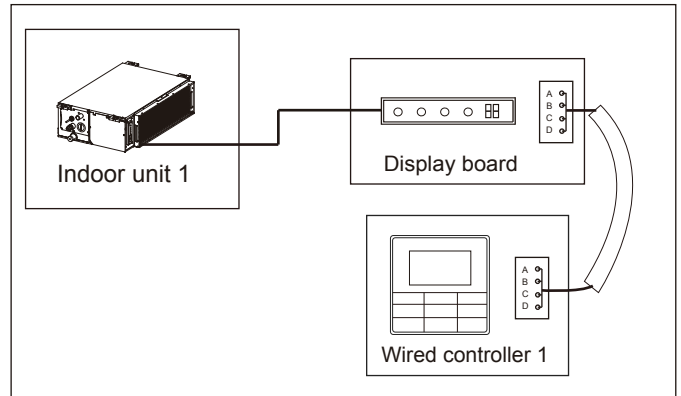

Figure 7.9
- Use 1 wired controller to control 1 indoor unit (see Figure 7.9).